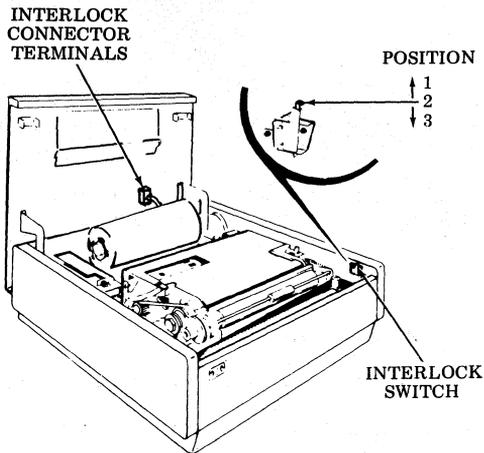

Fig. 2
2.02 The interlock switch has a three-position activator (Fig. 2). Check for continuity at interlock connector terminals 1 to 2 when the activator is lifted to its 1 position (maintenance)